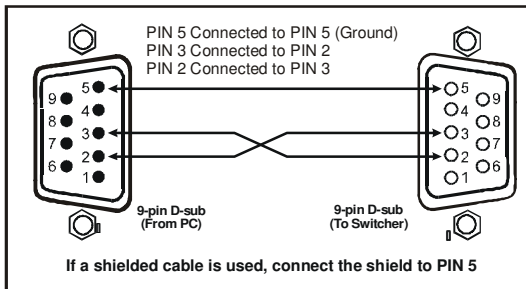

Figure 6: Connecting the PC
- Connect the RS-232 9-pin D-sub port on your PC to the RS-232 9-pin D-sub rear panel port on the **VP-2x2** unit, forming a cross-connection1, as Figure 6 illustrates